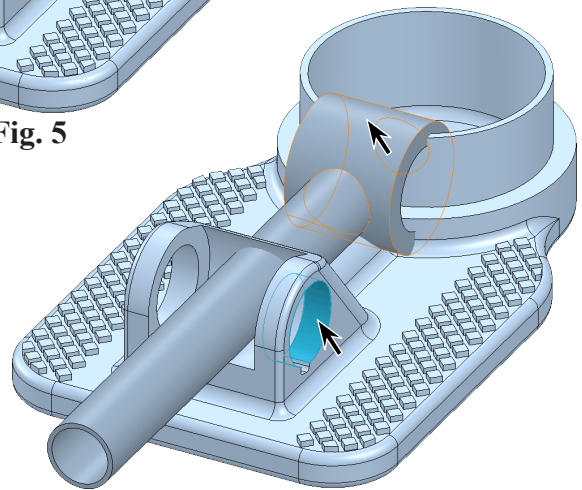

Fig. 6
Step 4. Click **cylindrical face of bolt hole in Base** and **cylindrical face of bolt hole in Tube**, **Fig. 6**.